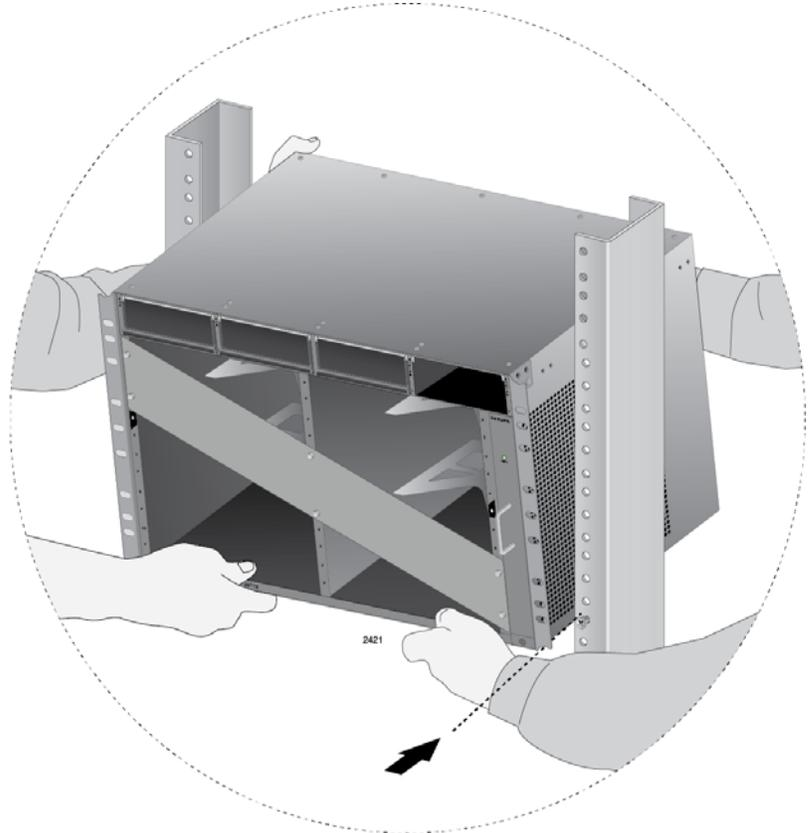

Figure 38. Lifting the AT-SBx8112 Chassis into the Equipment Rack
2. Do not mount any other equipment within 152.4 mm (6") above this space during installation. This additional vertical space is temporary and allows you enough room to lift and tilt the chassis into its position in the equipment rack without hitting other equipment, as shown in Figure 38 on page 103. You may use this additional space for other network equipment after the chassis is installed.
1. While facing the front of the chassis, tilt the top of the chassis toward you, as shown in Figure 38 on page 103.
2. Lift the AT-SBx8112 Chassis into the equipment rack and set the bottom of the equipment rack brackets firmly on the two equipment rack screws you installed in “Preparing the Equipment Rack” on page 95, as shown in Figure 38.